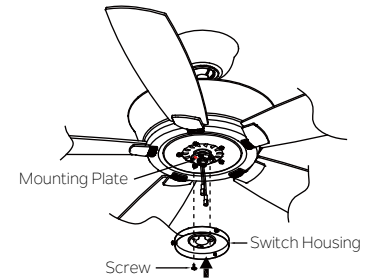

Fig. 21
**Step 1.** You will find one red label on the mounting plate. Remove this screw (near the red dot label) preinstalled on mounting plate and loosen the other two (do not remove). Place the two slot holes on the switch housing over the 2 screws previously loosened from the mounting plate. Rotate the switch housing until it locks in place at the narrow end of the key holes. Securely by tightening the 2 screws previously loosened and the one previously removed.(Fig. 21)